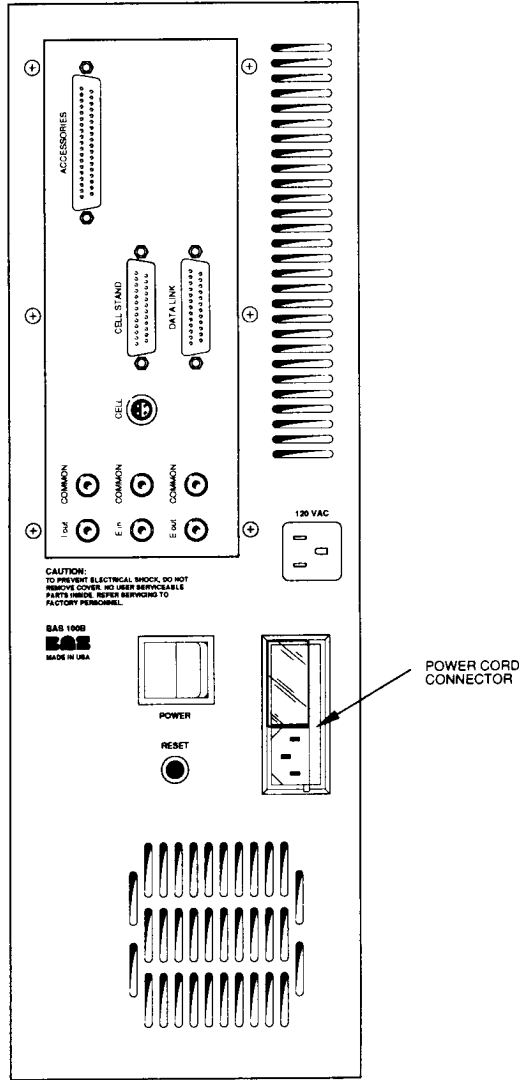

Figure 2-1. Rear panel of BAS 100B (the ports that are not required for the BAS 100B/W are omitted).
The Analyzer can be powered by any of the following A.C. voltages: 100V, 120V, 220V, 240V. The A.C. frequency may be either 50 or 60 Hz. The main power source in the location must be the same as the voltage selected in the power cord connector on the rear panel of the Analyzer (see Figure 2-1). For best results, an isolated power line is recommended.
- a. Remove the power cord from the power cord connector (the location of this connector is shown in Figure 2-1).
The power cord is shipped as a separate item and must be plugged into the connector on the rear panel (Figure 2-1). To insert the power cord into the power socket, push up the plastic window and plug in the female end of the power cord. The plug type on the male end of the power cord may vary depending on the country of destination.
The cell lead cable is the group of wires that connects the Analyzer electronics to the electrodes of the electrochemical cell. One end of this cable plugs into CELL on the rear panel of the Analyzer (Figure 2-1) and the other end is attached to the electrodes. This may be a direct connection using the general purpose cable sent with the Analyzer or one for attachment to a cell stand such as the BAS C3 Cell Stand.